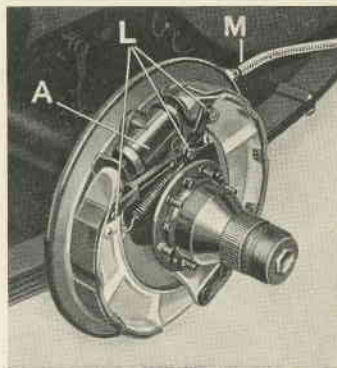

Fig. 22.
Remove the wheel and drum as described for the front wheels, but the removal of the shoes differs owing to the hand brake mechanism, and is as follows:—With the brake drum off, remove the cotter pin holding the fulcrum pin of the toggle arms (L) Fig. 22, and withdraw pin when the toggle will be free. The cotter pin will be found at the back of the fulcrum pin. Then release brake return spring and the shoe fulcrum pin, and pull shoes clear of the hydraulic cylinder as mentioned above in connection with the front brakes. The instructions on the previous page ("Removing Front Brake Drum") in regard to "corresponding" marks for drum and hub should also be followed when adjustment is being made to the rear brakes. Before replacing the brake drums ascertain that the mechanism is functioning correctly.